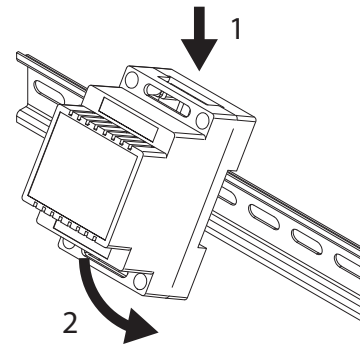
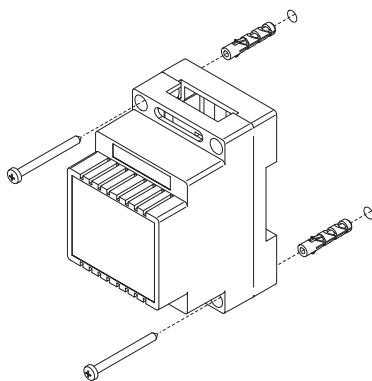

Fig. 2
Fig. 3
2. Fix the power supply to a DIN rail (**Fig. 2**) or directly to the wall using two expansion type screws (**Fig. 3**);